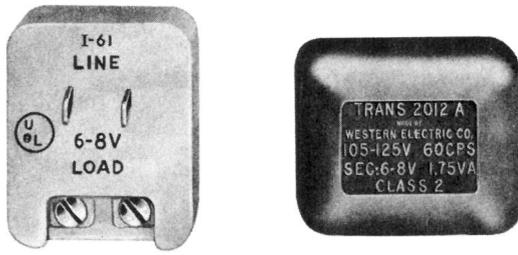

Fig. 3—2012A Transformer
3.01 The 2012A transformer (Fig. 3) supersedes the KS-16184L3 transformer.